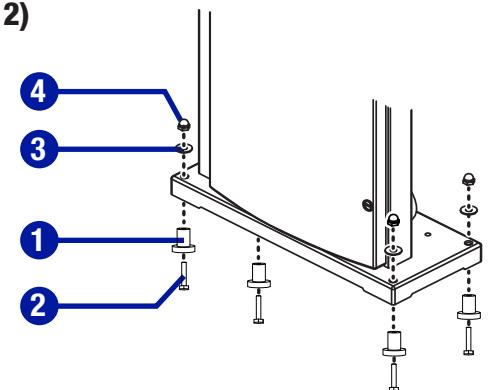

Fig. 2
**MOUNTING RUBBER FEET ON THE BASE (Fig. 2)**
- Insert the four rubber feet (1) into holes provided in the four corners of saw base.
- Insert M6 hex bolts (2) into the holes and tighten them with M6 flat washers (3) and M6 cap nuts (4).